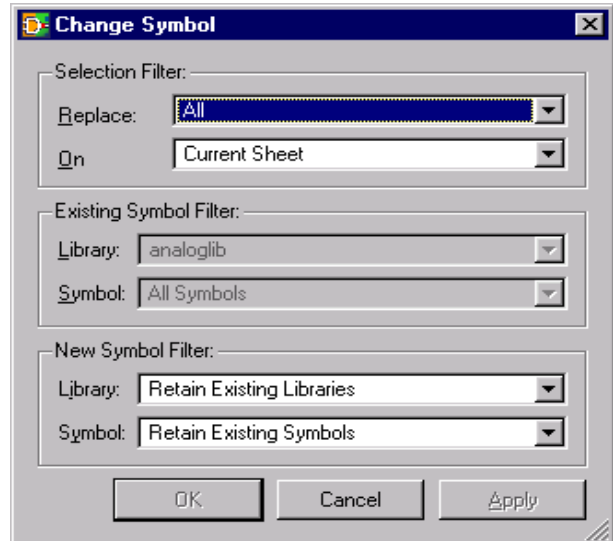

Figure 4. The Change Symbol Dialog,
1. Use the Change Symbol dialog to update the schematic with spicelib symbols (that have SmartSpice attributes for netlisting). This replaces instances from 'analoglib' with 'spicelib' instances. Goto Tools->Change Symbol and see in Figure 4